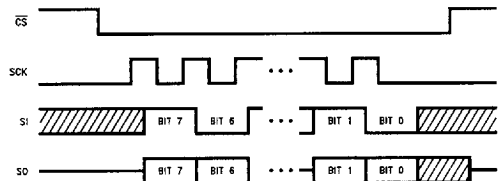

FIGURE 3
**TRANSMITTER/RECEIVER:** The NM25C04 has separate pins for data transmission (SO) and reception (SI).
**PROTOCOL:** When connected to the SPI port of a 68HC11 microcontroller, the NM25C04 accepts only a clock phase of 1 and a clock polarity of 0. The SPI protocol for this device defines the bytes transmitted on the SI and SO data lines for proper chip operation. See Figure 3.